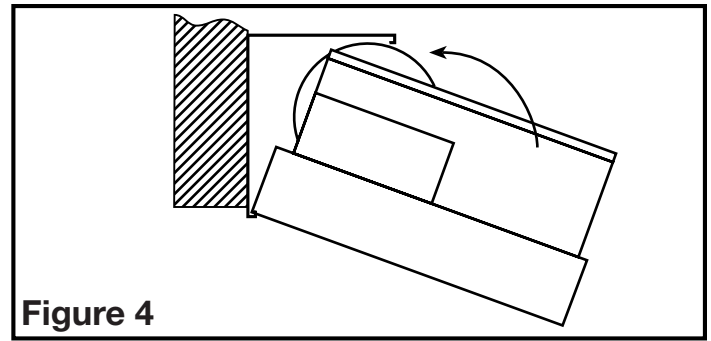

Figure 4
2. Snap the fan body into the bracket (**Figure 4**). The fan can be snapped into position with the duct collar facing to the left or the right depending which is most convenient.
- Snap the fan body into the bracket (**Figure 4**). The fan can be snapped into position with the duct collar facing to the left or the right depending which is most convenient.